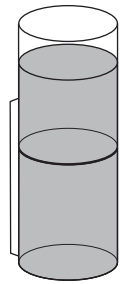

FIGURE 2
- ◆ If the sample is cloudier than the reference jar the filter needs to be changed (Figure 2).